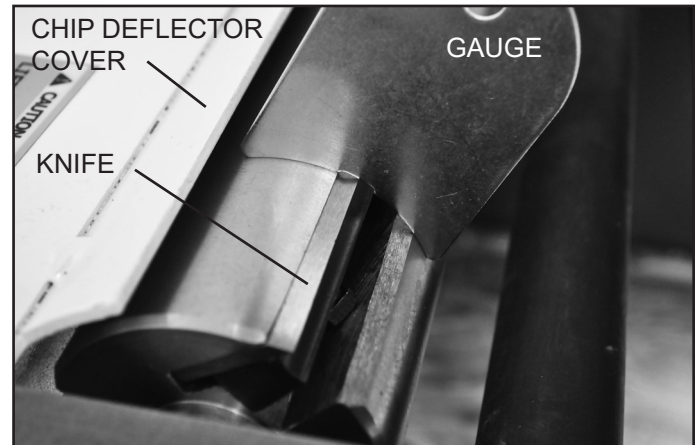

FIG. 13
2. Place the Knife Setting Gauge onto the cutterhead. The knife must project so that it touches the notch interior of the gauge. FIG. 13. Check both ends of the knife in the cutterhead with the gauge, to make sure that the knife is set at the same height. To adjust the knives;